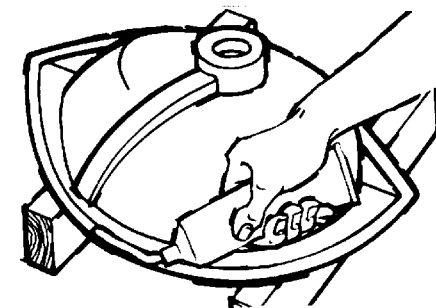

Fig. 9
- 2 Squeeze a generous amount of sealant all around the lavatory rim (Fig. 9).